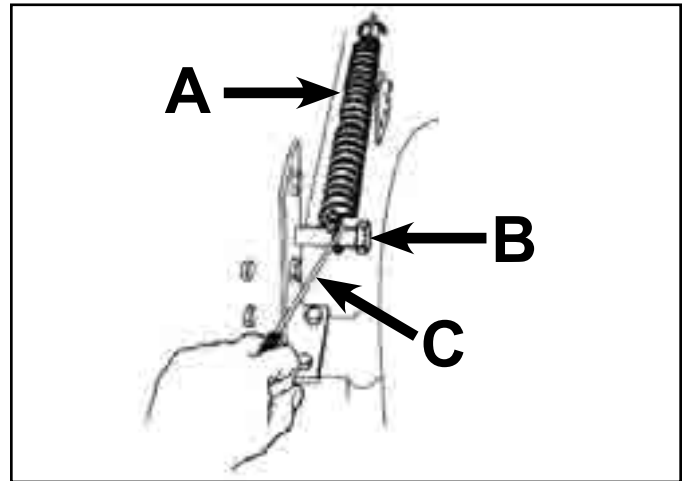

Fig A6 020 fig. 35 m-1851
3. Remove the lift assist spring between the mower right side lift bracket and the retaining bolt (Fig. A6 020).